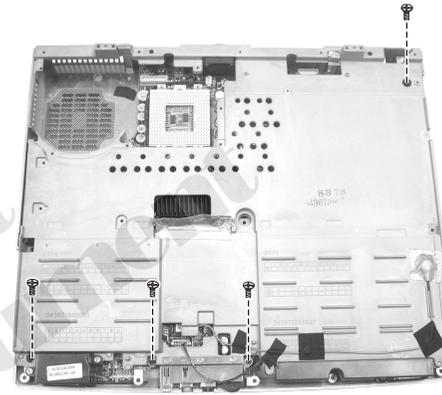

Figure 2-25 Remove the four screws
5. Remove four screws fastening the gasket with system board in the housing. (Figure 2-25)